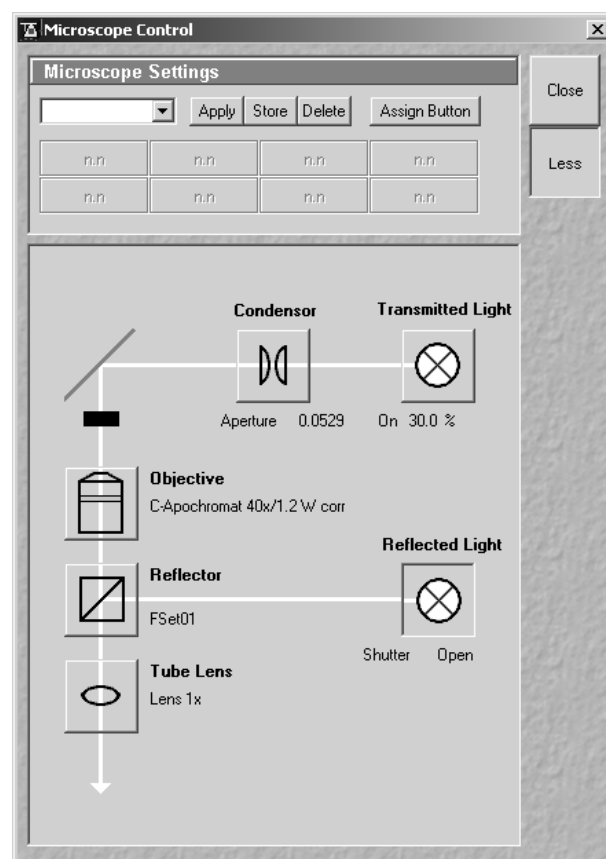

Fig. 3-9 Axiovert Control window
- The first step is to set up the microscope for FCS measurements. This is done in the **Axiovert Control** window (Fig. 3-9) or manually at the microscope stand. This window is reached by clicking the **Micro** button in the **Configuration** subordinate toolbar of the **Main** menu.